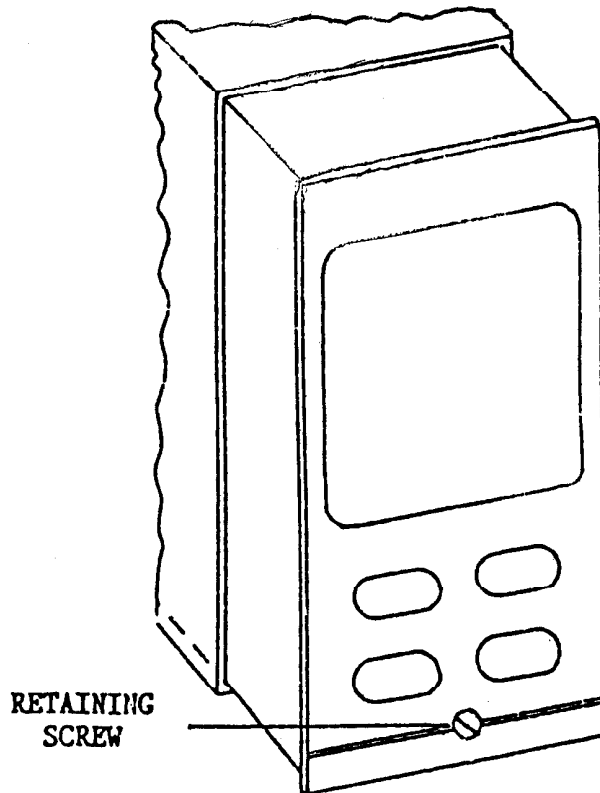

FIGURE 2-2 REMOVAL AND REPLACEMENT OF 3400 WITHIN HOUSING
2.2.2 Removal of Instrument from Housing (see Figure 2-2)